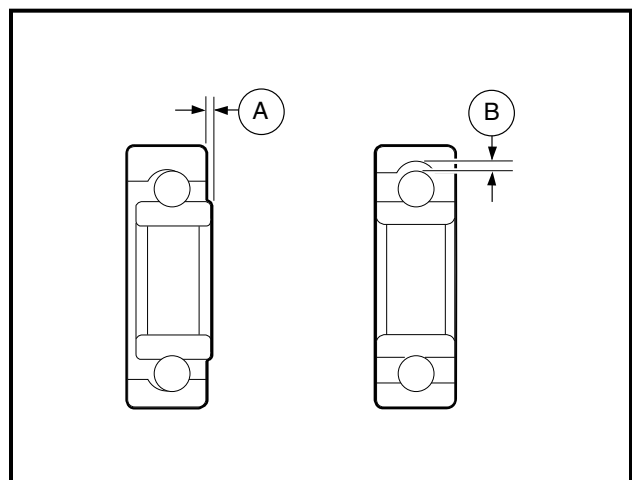

Figure 5-23 Inspect Bearings
2. Inspect all bearings by spinning them by hand. Check the bearings for excessive axial (A) and radial (B) play (**Figure 5-23, Page 5-13**). Replace bearings if they do not spin smoothly, if they are noisy, or if they have excessive play. Replace bearings if they are rusted, worn, cracked, pitted, or discolored.